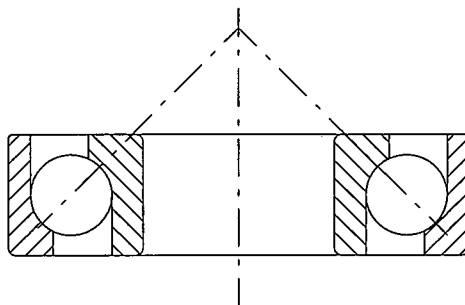

Figure 9.1
- 3) Preassemble the parts from (06.040.0) to (06.110.0) on the vertical shaft (06.090.0). The thrust ball bearing (06.050.0) must be set as shown in figure 9.1.